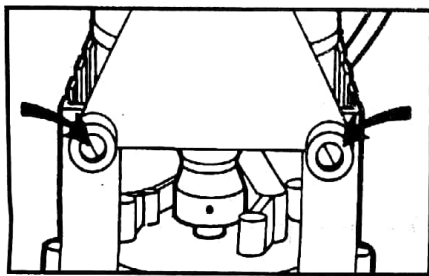

FIG. 1 (Models w/Foot Mounting Bracket Only)
1. Stand pump on oil cover. If pumps has foot mounting bracket, remove unit by loosening foot screws (**FIG. 1**).